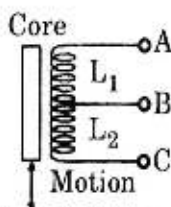

Fig. 5.11.4. Variable inductance transducer.
- An inductance transducer of attachment type is shown in Fig. 5.11.4. The core, made of high permeability steel, is attached to the moving object. The motion changes the length of the core inserted in the coil and thus the inductance of the coil gets changed due to the change of reluctance of the magnetic flux path.